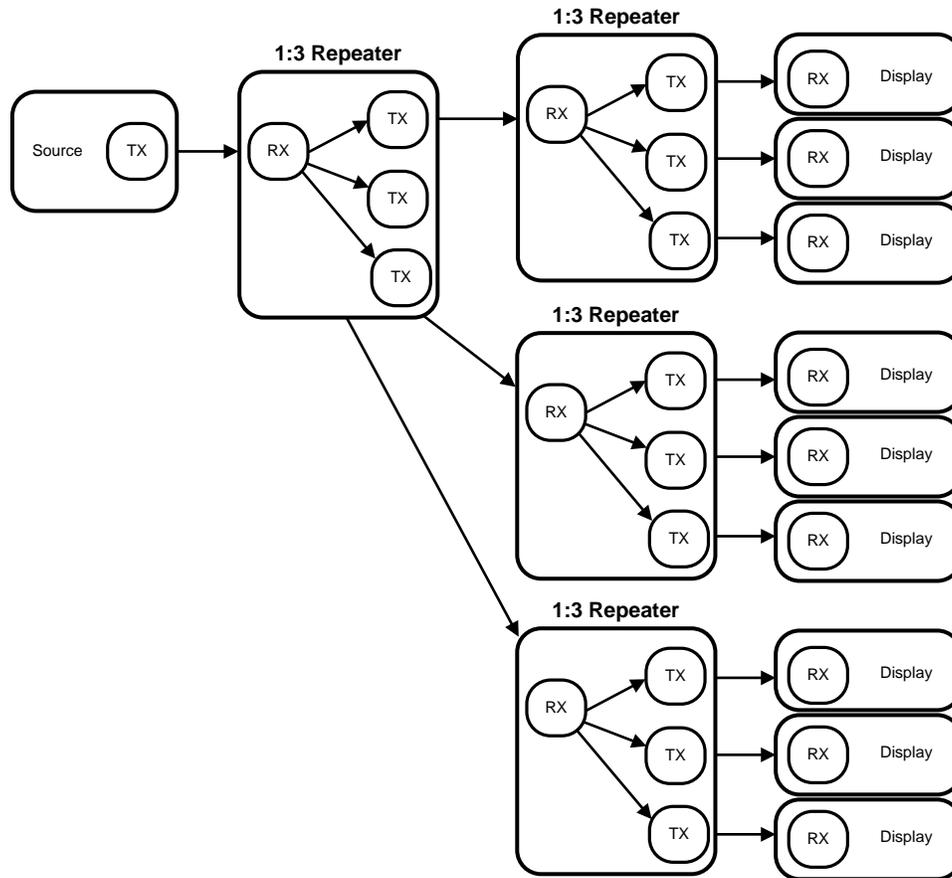

Figure 13. Maximum Repeater Application
In the repeater application, in this document, the DS90UB925Q is referred to as the Transmitter or transmit port (TX), and the DS90UB926Q is referred to as the Receiver (RX). Figure 13 shows the maximum configuration supported for Repeater implementations using the DS90UB925Q (TX) and DS90UB926Q (RX). Two levels of Repeaters are supported with a maximum of three Transmitters per Receiver.